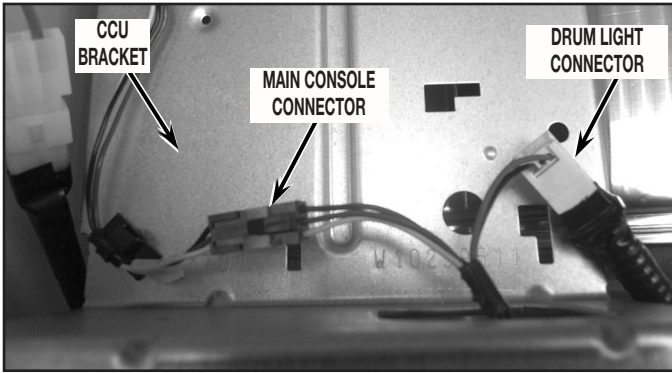

FIGURE 4
- Disconnect drum light connector and main console connector as shown in *Figure 4*. Lift up on console and tilt assembly forward to remove console.